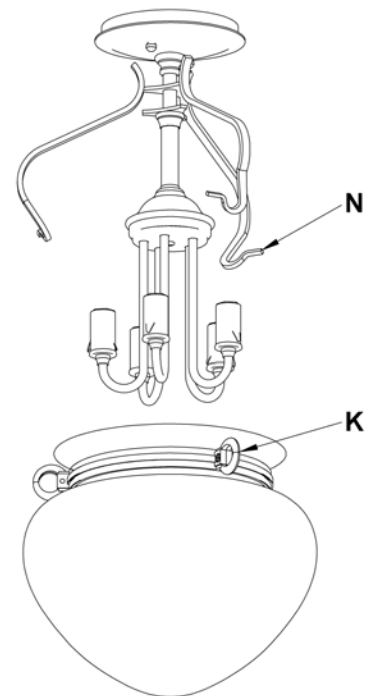

Figure 3
2. To attach glass to fixture, position glass around sockets and place the loops of the bands (K) over the hooks (N) on the fixture (Figure 3).